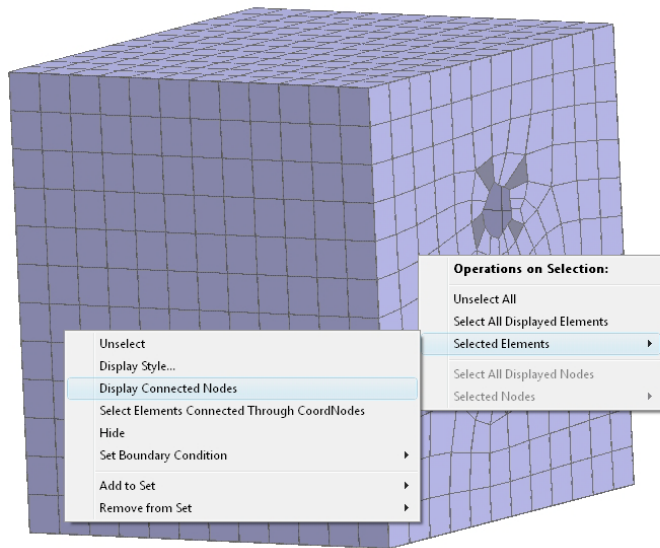

Figure A.12 Display connected nodes for creating a seam.
- Right-click on the mesh while holding down the *shift-key* to view the context menu and select: **Selected Elements** → **Display Connected Nodes** as shown in Figure A.12.
- Right-click on the mesh while holding down the *shift-key* to view the context menu and select: **Selected Elements** → **Display Connected Nodes** (similar to the Figure A.12).